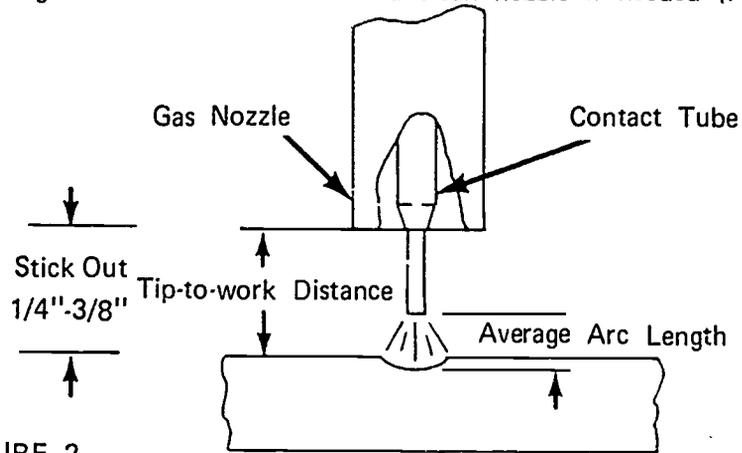

FIGURE 2
- D. Adjust gun to correct stick out and clean nozzle if needed (Figure 2)